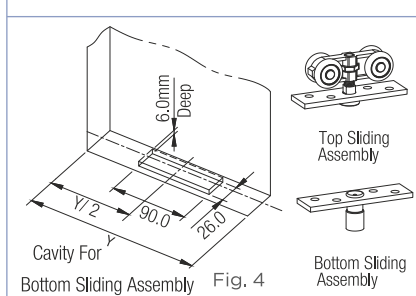

Fig. 4
4. Cut a cavity in the center of bottom side of door as per fig. 4 & screw in Bottom Sliding Assembly.